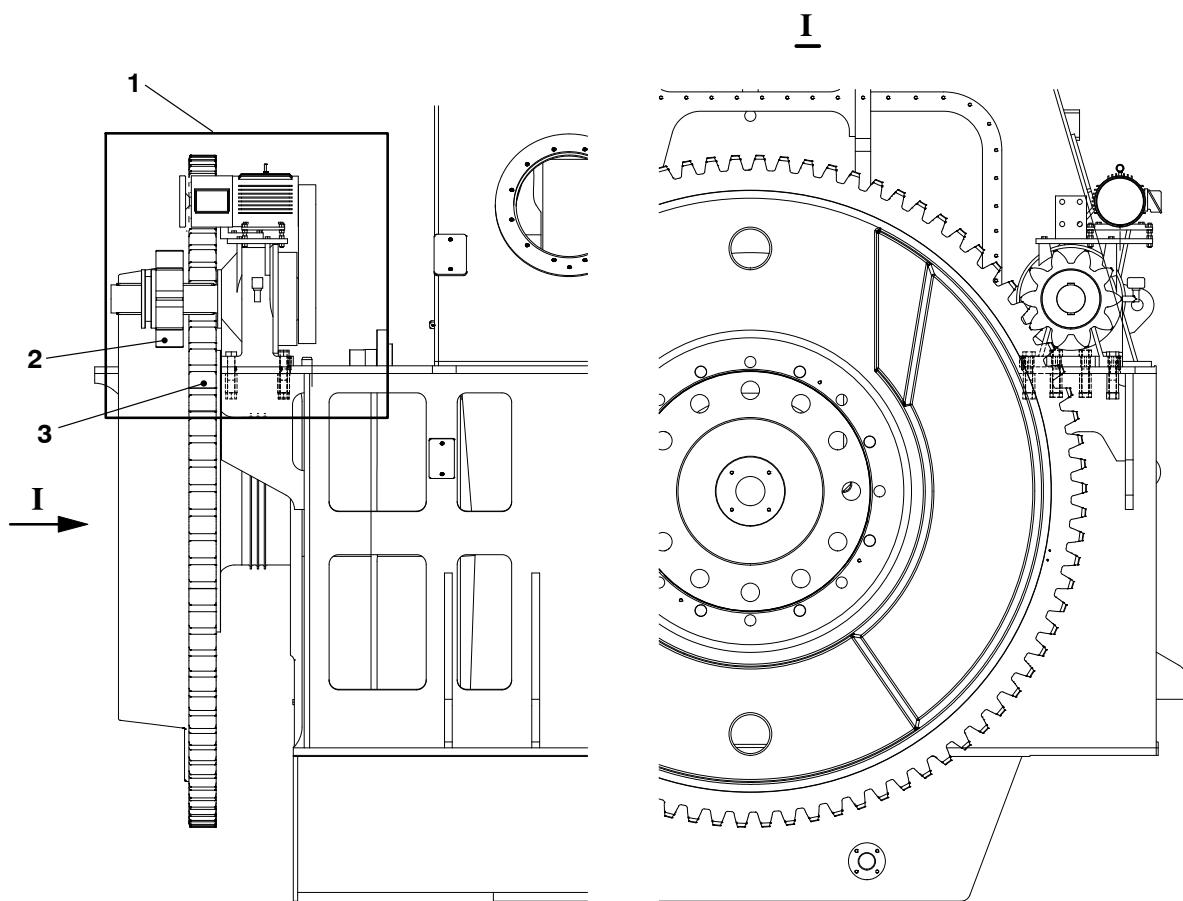

Fig. 1
Before you operate the turning gear (1, Fig. 1) you must do a check of the condition of the tooth flanks on the pinion (2) and the flywheel (3). Also you must make sure that there is lubricant applied to these components.
Apply a very thin, equal layer of lubricant to the tooth flanks of the pinion (2, Fig. 1) and the flywheel (3). Refer to Table 1 and Table 2.